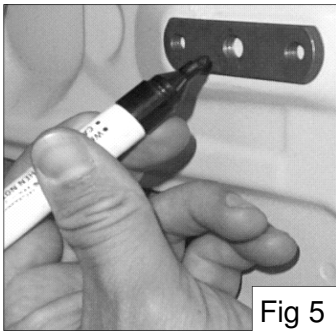

Fig 5
1. Using mounting plate (Item 3) as a template, position centre hole over locations marked previously and mark with a felt pen all outer holes as follows (Fig. 5).